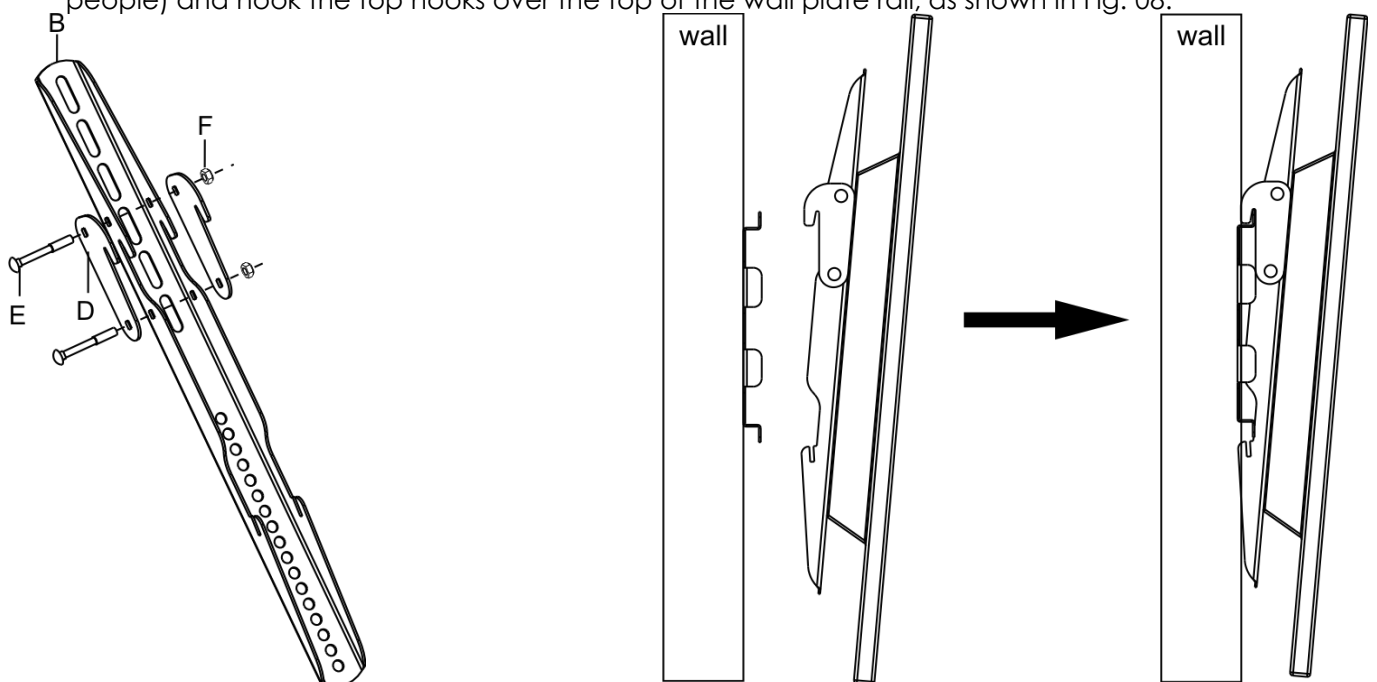

Fig. 08
- Attach the tilt option (D) to the TV rails by using the M6 screws (M-F) and the M6 lock nuts (M-G) as shown in Fig. 08.
- After the wall mounting bracket has been safely secured to the wall, carefully lift your TV (with 2 people) and hook the top hooks over the top of the wall plate rail, as shown in Fig. 08.